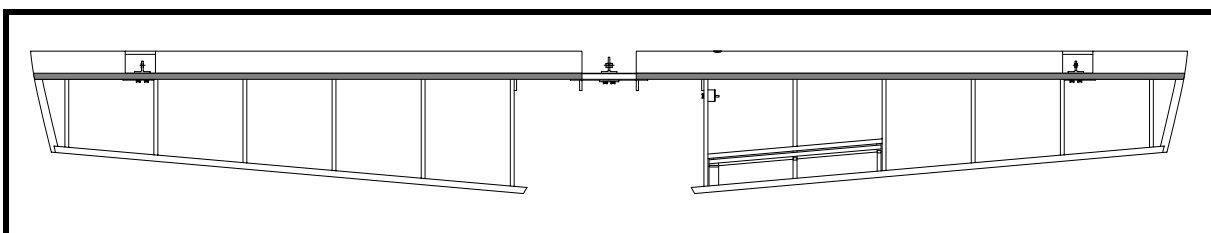

Figure 11
Just so things look nice and tidy, it is best to extend this skin along the spar to join the skin at Sta. 5. This will make the scarf joint for the trailing edge skin easier, as you can see in Figure 11.
- ❑ Scarf the leading edge skin along the spar to prepare for the trailing edge skins. See Figure 11.